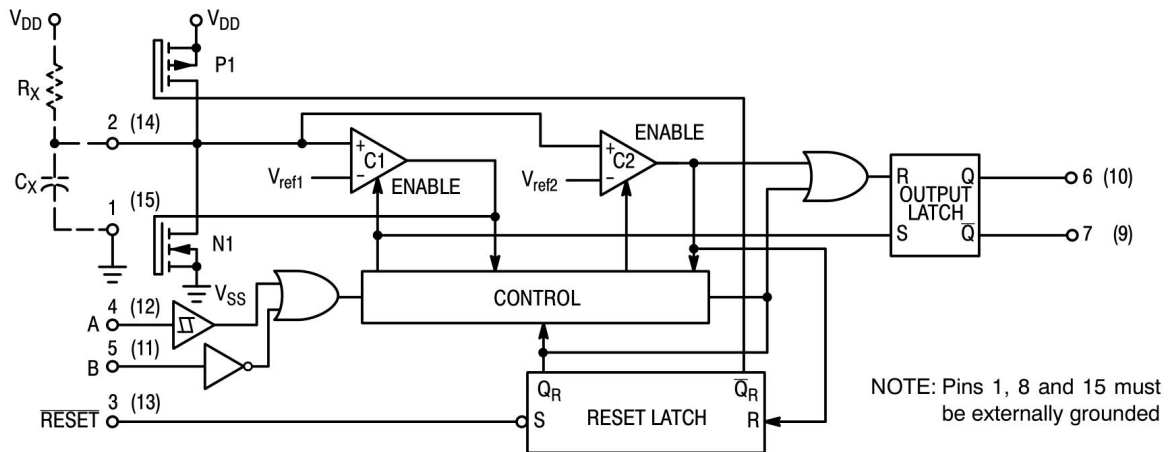

Figure 1. Logic Diagram
The block diagram of the XD14538 is shown in Figure 1, with circuit operation following.
As shown in Figure 1 and 10, before an input trigger occurs, the monostable is in the quiescent state with the Q output low, and the timing capacitor C_X completely charged to V_{DD} . When the trigger input A goes from V_{SS} to V_{DD} (while inputs B and Reset are held to V_{DD}) a valid trigger is recognized, which turns on comparator C1 and N-channel transistor N1 ①. At the same time the output latch is set. With transistor N1 on, the capacitor C_X rapidly discharges toward V_{SS} until V_{ref1} is reached. At this point the output of comparator C1 changes state and transistor N1 turns off. Comparator C1 then turns off while at the same time comparator C2 turns on. With transistor N1 off, the capacitor C_X begins to charge through the timing resistor, R_X , toward V_{DD} . When the voltage across C_X equals V_{ref2} , comparator C2 changes state, causing the output latch to reset (Q goes low) while at the same time disabling comparator C2 ②. This ends at the timing cycle with the monostable in the quiescent state, waiting for the next trigger.